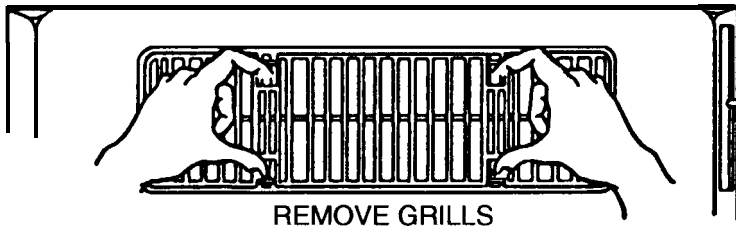

FIG. 10.A.
- A. Install the heat package to the ceiling template using the four (4) pointed screws provided. The heater element will align below the discharge air opening and the mounting holes will align with the prepunched holes in the ceiling template.
- A. Remove the two return air grills and filters which are shipped loose in the air box. (FIG. 10.A)
- B. Slide the front end of the air box over the shafts of the thermostats and selector switch. (FIG. 10.B)